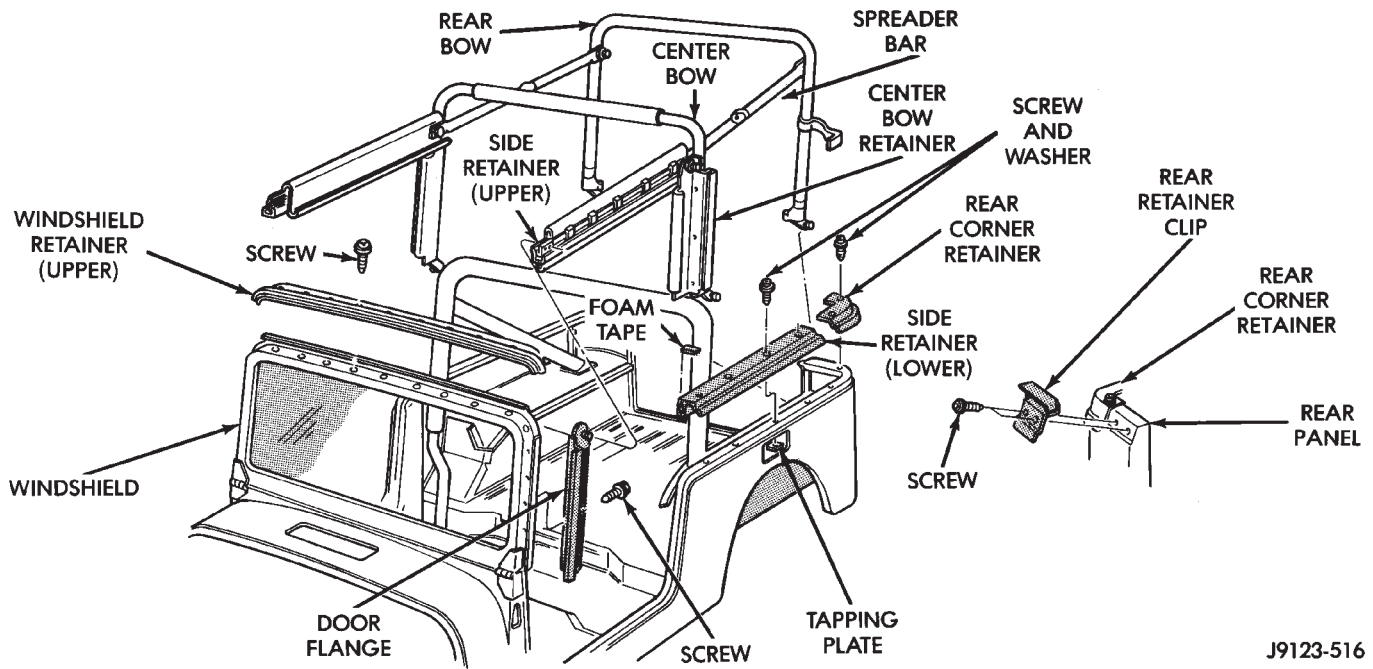

Fig. 97 Soft Top Bow, Spreader Bar and Retainers
The soft top fabric consists of the top cover and the side and rear curtains (Fig. 96). The top cover is supported by a tubular bow (frame) and is attached to the upper side retainers (above the doors) with snap-on retainers (Fig. 97).
(7) Pull downward on the spreader bar to release the lock and the tension on the center and rear bows (Figs. 97 and 105).
(8) Open the tailgate.